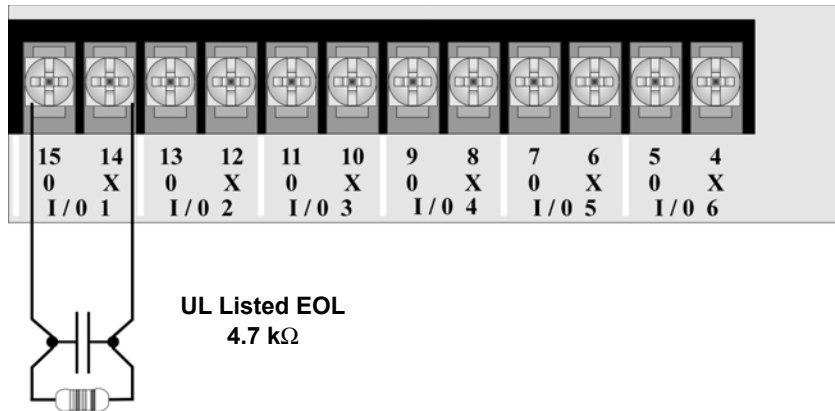

Figure 3.11 Class B Input Switches
1. Wire the Class B switch as shown in Figure 3.11.